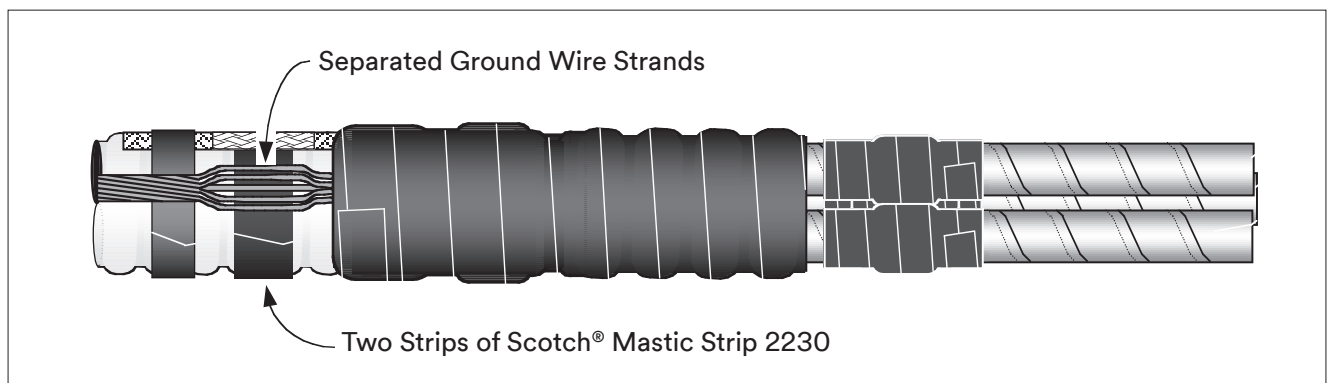

Figure 9
- 3.12 Separate ground wire strands over strips of Scotch® Mastic Strip 2230 as shown in Figure 9.